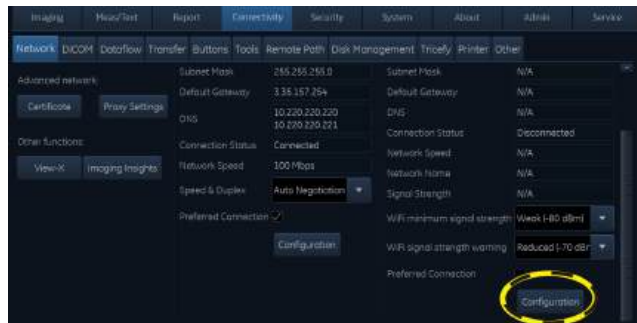

Figure 3-41. Connectivity - Network Tab
4. Click the **Configuration** button (see Figure 3-41).